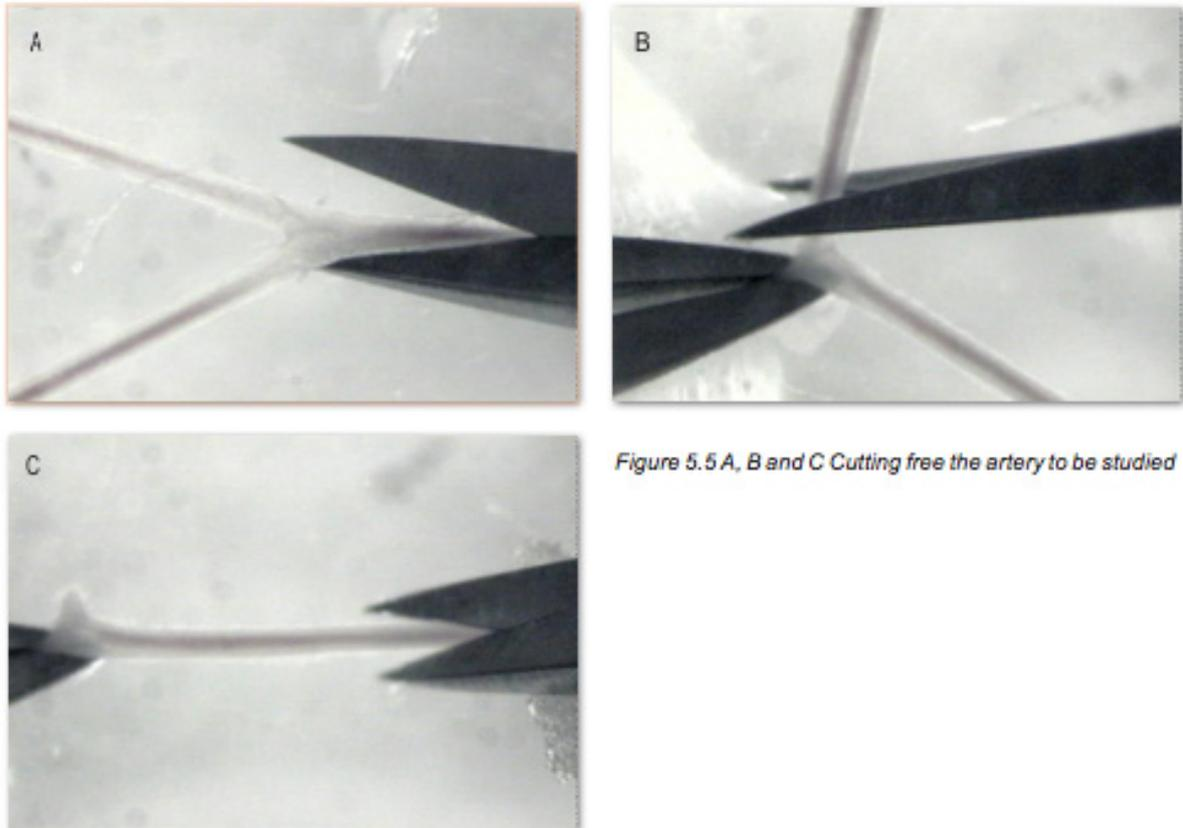

Figure 5.5 A, B and C Cutting free the artery to be studied
- Cut the distal end of the artery section to be investigated. Afterwards cut the proximal end while ensuring that the vessel segment has the correct length (Fig. 5.5 A-C).